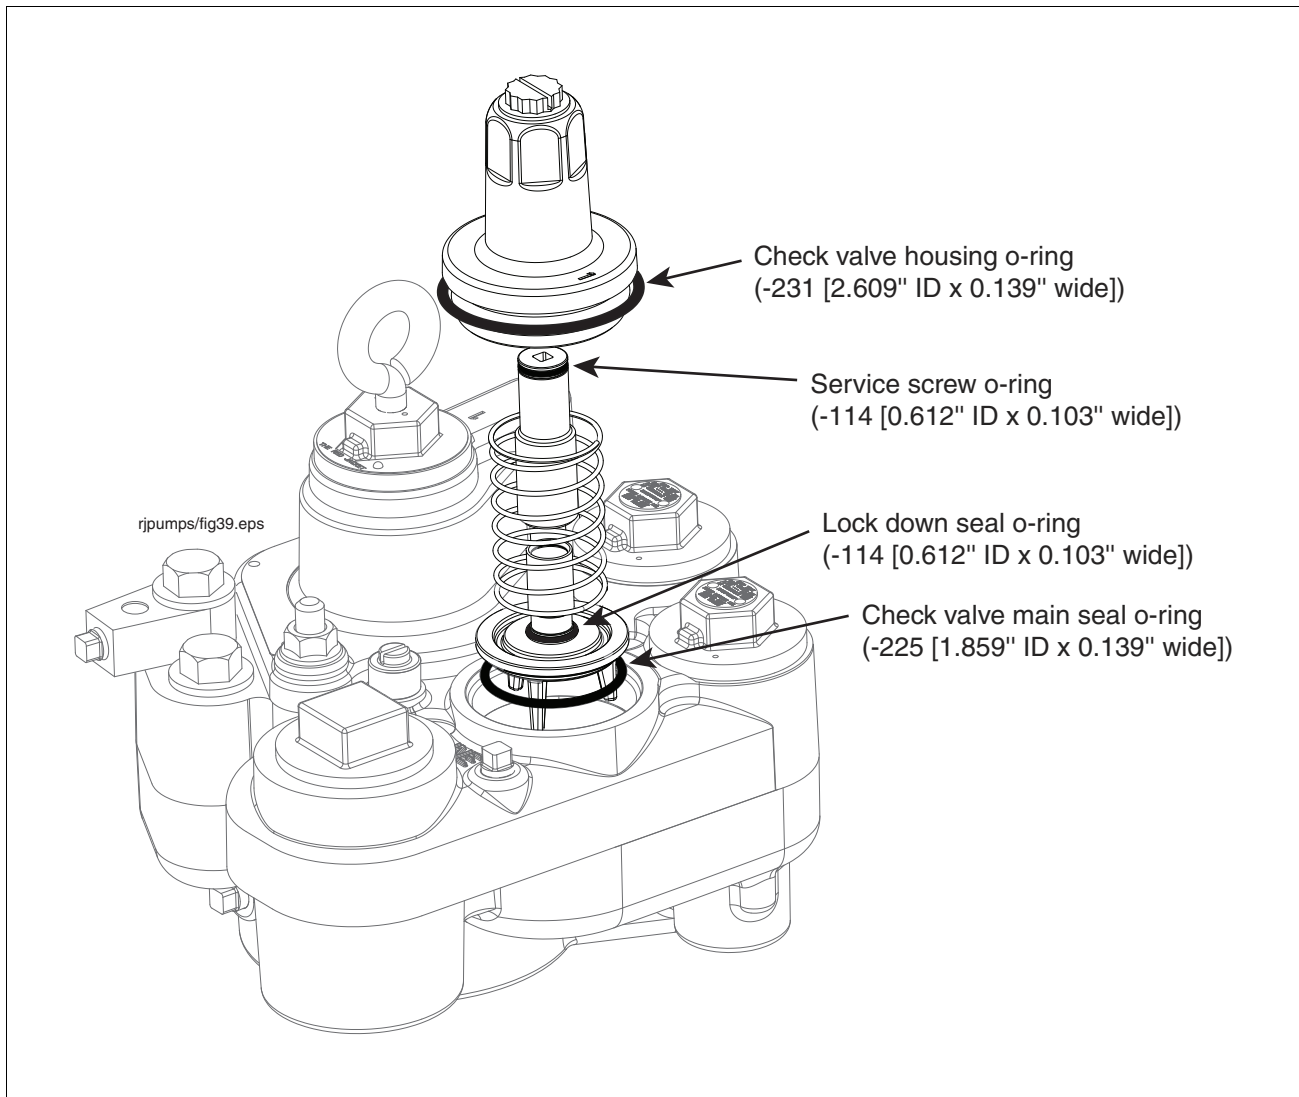

Figure 28. Inserting Check Valve Assembly Into Manifold
6. With its lubricated o-ring in place, insert the check valve onto its seat in the manifold, and place the new spring over the check valve (see Figure 28). Place the check valve housing with o-ring over the spring and check valve and screw it in hand tight. Torque the housing to 40 - 50 ft-lbs (54 - 67 N•m).